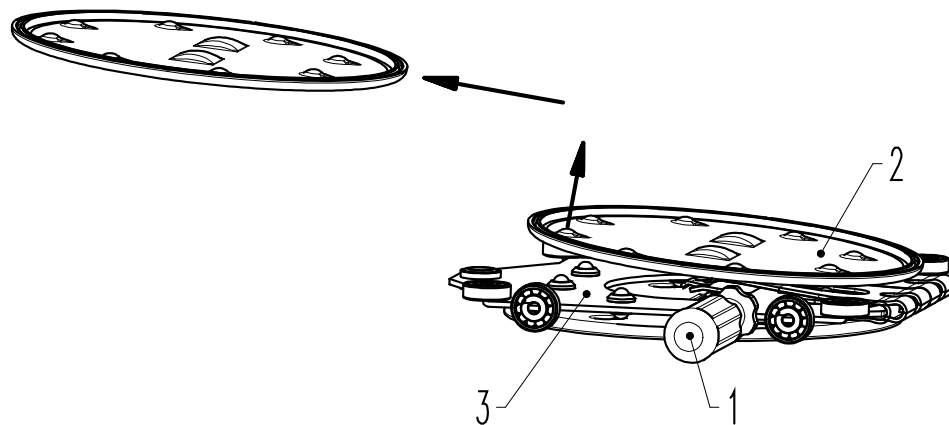
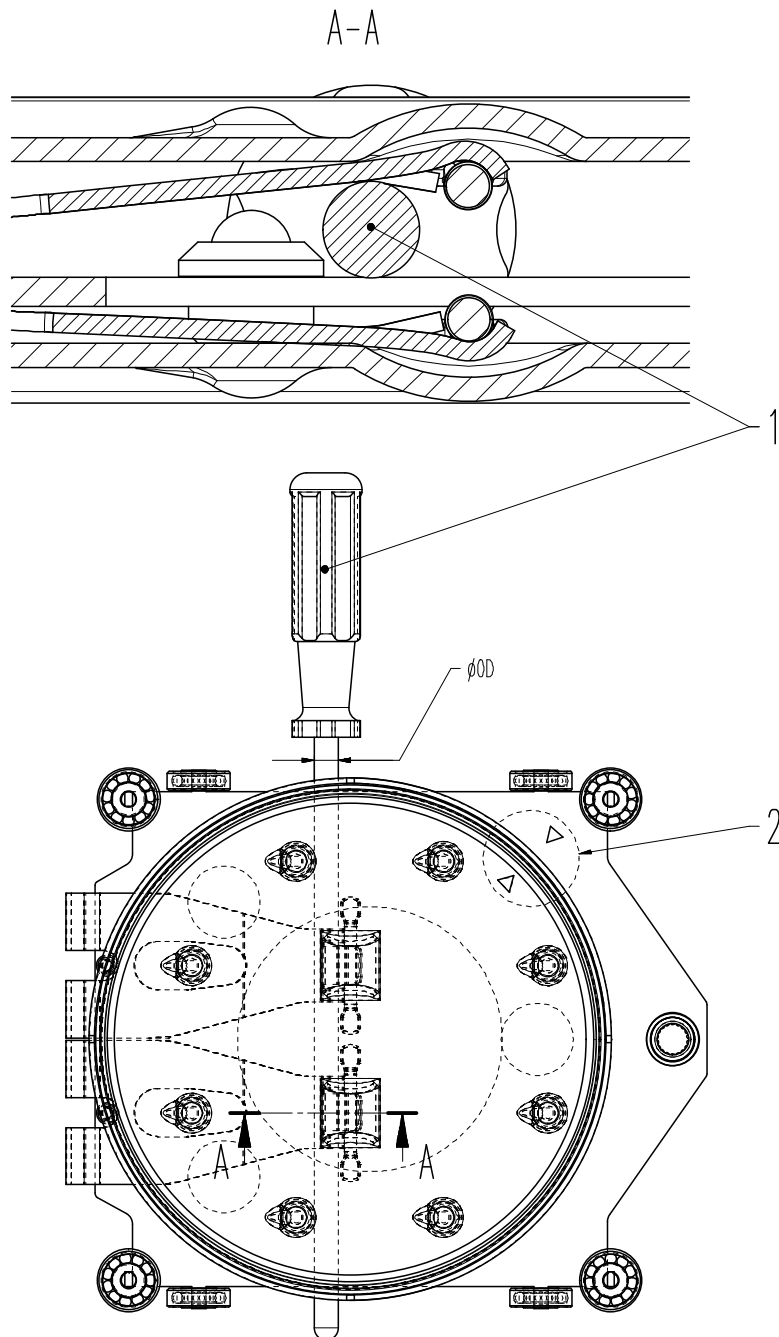

Figure 6-4
Figure 6-5
For dismounting and mounting the valve gate always use tool (1) according to «Figure 6-4». The tool may be ordered from VAT.
12. Lift valve gate (2) by hand and insert tool (1) between valve gate (2) and ball guidance (3); see «Figure 6-4» and «Figure 6-5» on page 21.
13. Remove valve gate in direction of the arrow; see «Figure 6-4» on page 20.
The markings Δ and ∇ (2) according to «Figure 6-5» on page 21 on ball guidance and valve gate must face each other.
15. Withdraw tool according to «Figure 6-4» on page 20.